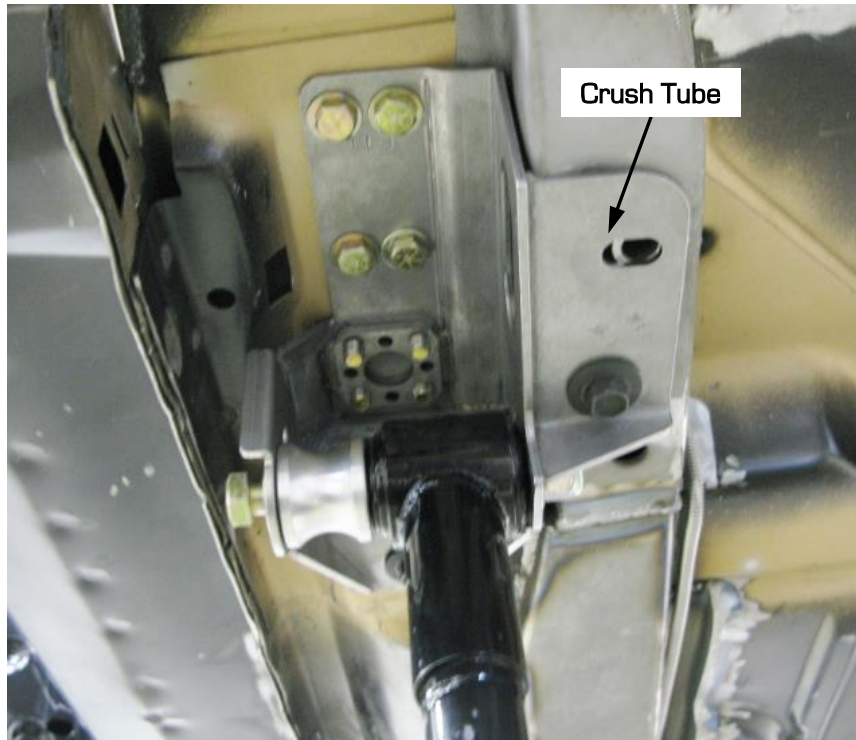

Figure 10 - Frame Rail Crush Tube
25. Position the frame rail crush tube in the frame rail and install the DSE pocket assembly into the vehicle. The DSE pockets will hold the crush tube in place so that it won't fall out. Install the 7/16"-14 x 4-1/4" L bolt through the bottom of the frame rail into the floor pan doubler (Figure 10 on the next page). If the bolt will not thread into the doubler plate, you may need to open up the bottom frame rail hole until the bolt will thread into the plate.